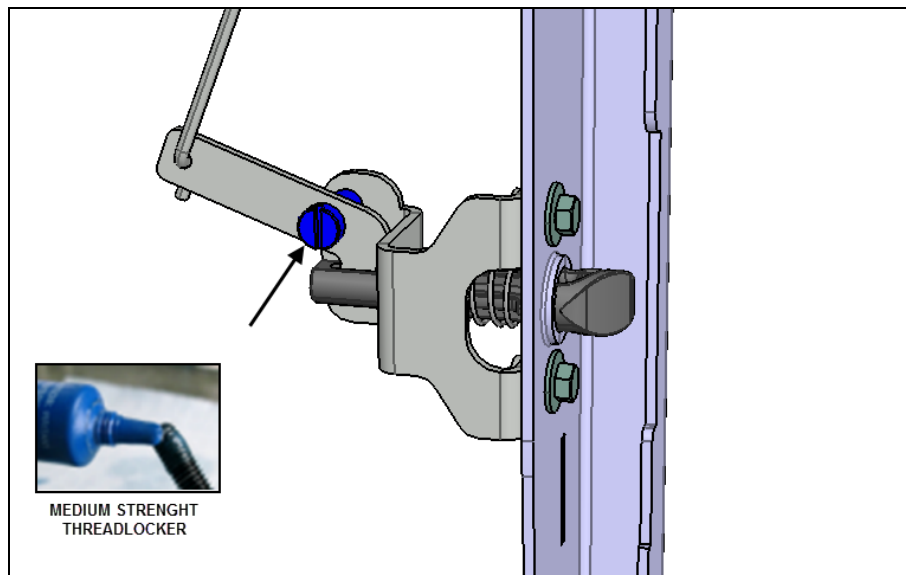

FIG.25 INSTALLING PIVOT BOLT
24. Secure the actuating arm to the latch bracket with the pivot bolt. Apply a slight amount of medium strength threadlocker (Loctite blue 243 or equivalent) to the pivot bolt threads (Fig.25).